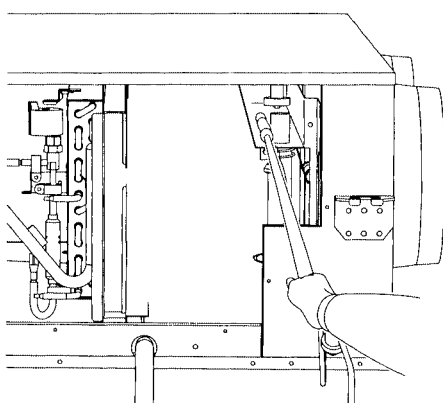

Fig. 5
7. Please fasten a rag to the point of the long stick more than 85cm, and wipe off the contamination inside a feed water tank. (Fig.5)